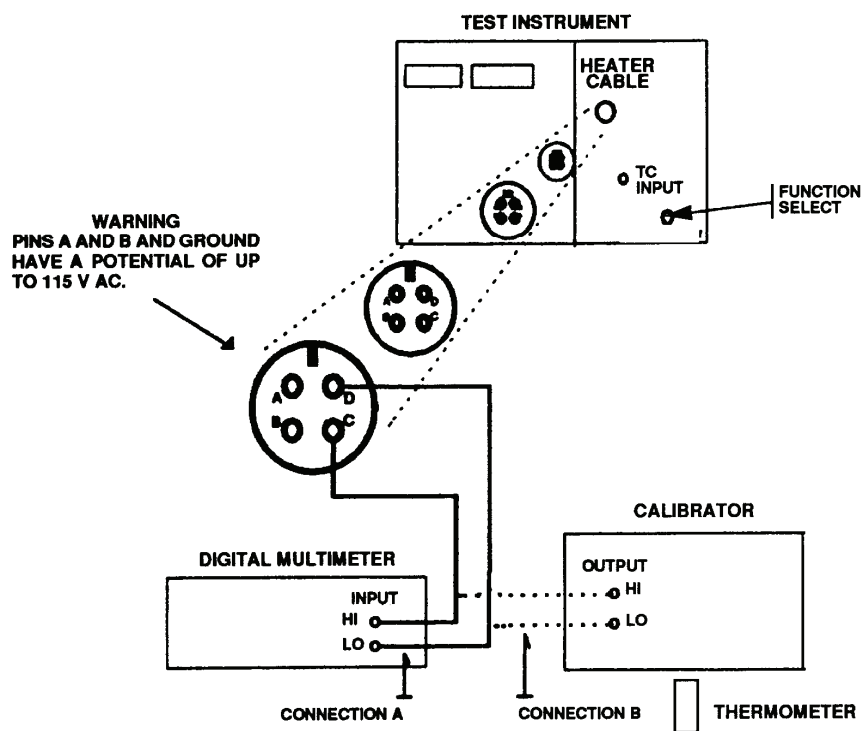
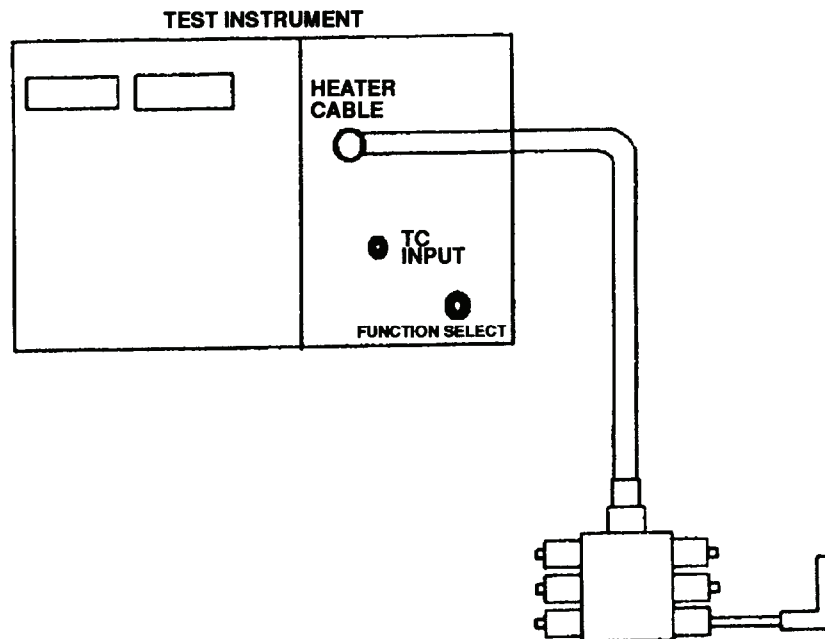

Figure 8. Heater probe.
Figure 9. Heater probe control circuit.
(4) Connect equipment as shown in figure 8, **CONNECTION A**. Set multimeter for ac voltage measurements.
- (5) Reconnect power cable to 115 V ac source and set **MASTER POWER** switch to **ON**.
- (6) Multimeter should indicate 0 V ac ( $\pm 1.0$ ); if not, verify equipment connection. (Ensure that pins C and D are connected to multimeter.)
- (7) Connect equipment as shown in figure 8, **CONNECTION B**.
- (8) Set calibrator for an dc millivolt output corresponding to ambient temperature as specified in table 3.
- (9) Set **TEMPERATURE** switch to **HEATER PROBE TEMP SET**.
- (10) Adjust **PROBE CONTROL** until **TEMP °C** indicator displays **100**.
- (11) Reverse leads at calibrator **OUTPUT** terminals.
- (12) Set calibrator for a 4.10 mV dc, less ambient temperature millivolt equivalent, output.
- (13) **PROBE POWER** lamp should be flashing, if not, perform **b (2)** below.
- (14) Adjust **PROBE CONTROL** until **TEMP °C** indicator displays **600**.
- (15) Set calibrator for a 24.91 mV dc, less ambient temperature millivolt equivalent, output.
- (16) **PROBE POWER** lamp should be flashing; if not, perform **b (3)** below.
- (17) Turn **PROBE CONTROL** fully ccw.
- (18) Disconnect calibrator from TI and connect heater probes as shown in figure 9.
- (19) Adjust **PROBE CONTROL** until **TEMP °C** indicator displays **100**.
- (20) Set **TEMPERATURE** switch to **OPERATE**.